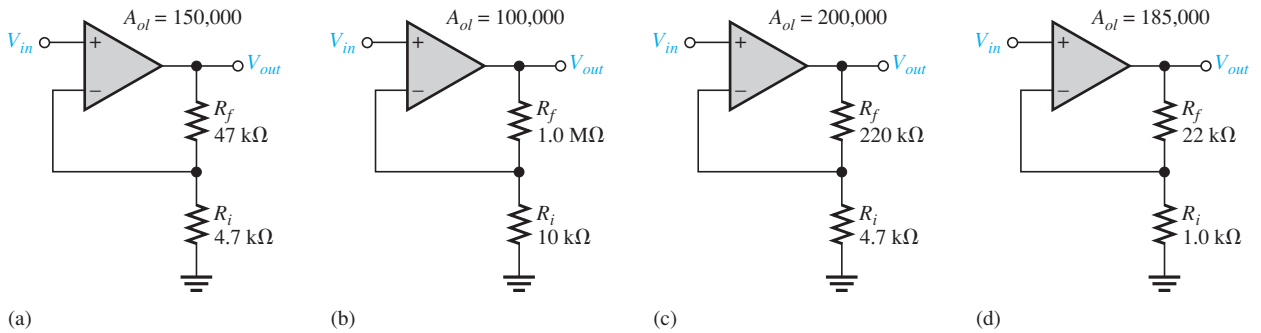

FIGURE 6-44
17. Determine the closed-loop gain of each amplifier in Figure 6-44.